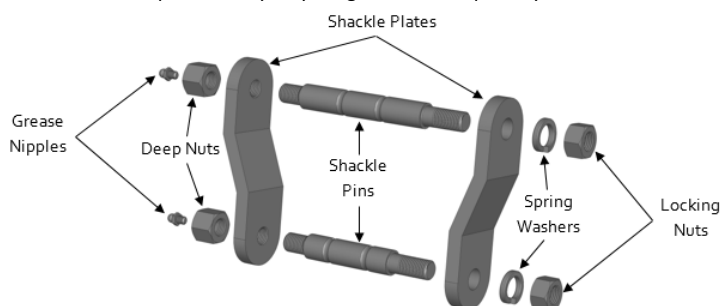

Figure 1: Diagram of rear swing shackle
- Screw and tighten the shackle pins into the threaded holes in the shackle plates as per figure 1;
- Install the other shackle plate, spring washers and screw the locking nuts on the pins as per figure 1 and figure 6 but don't fully tighten them at this stage;